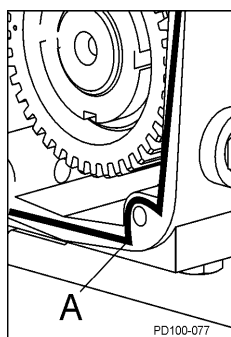

Figure 96 Sealant Placement
3. Apply silicone sealant to the back of the gear case. (Gore-Tex[®] sealing tape can be used on silicone-free models.) Place tape on the inside of the screw holes. (Figure 96, item A).